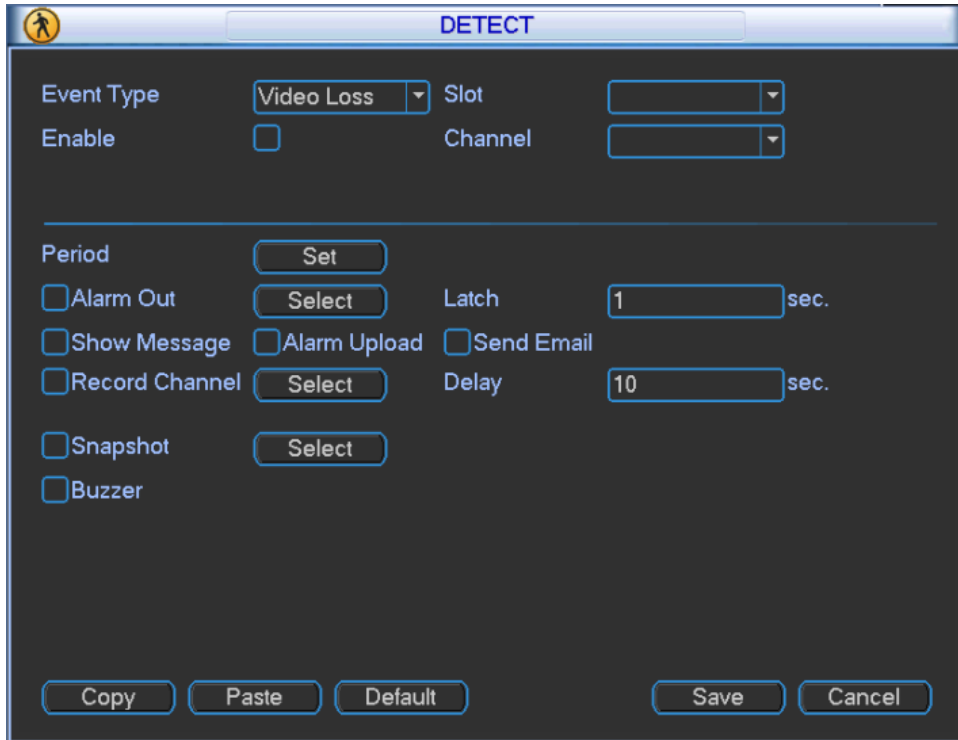

Figure 3-57
Step 1 Select “Event Type” to be “Video Loss”. The system displays Figure 3-57.